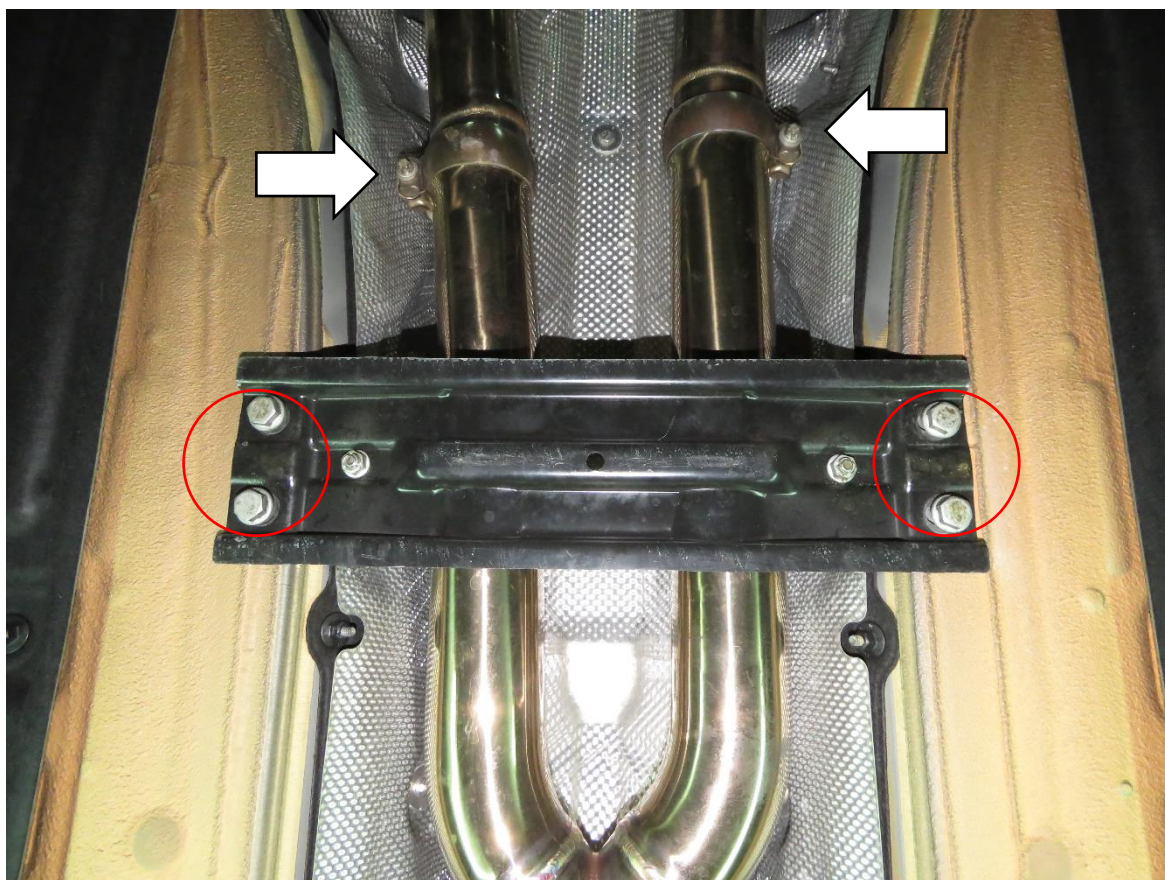

Fig. 16
2. The mid pipe clamps use the original clamps, and the support frame is installed to the position (Fig 16)